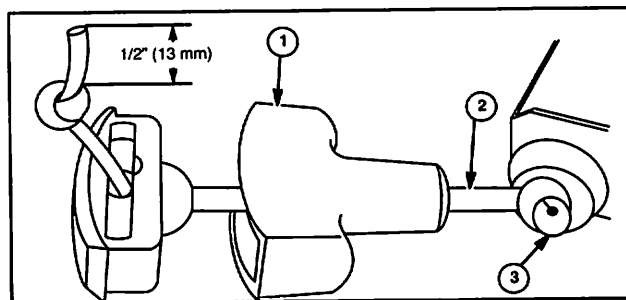

Fig. 40
1. While still holding pulley, tie a temporary knot (3) part way out on rope.
3. Insert rope (2) through starter handle (1) and starter handle insert, Fig. 40.
6. Operate starter to check for smooth operation, Fig. 40.